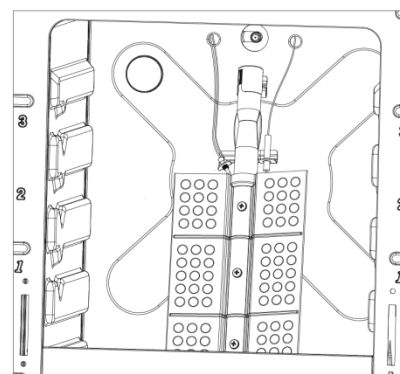

fig. 24
- b) Gently suspend the burner as shown in figure 24.
- c) Using a 7 mm box spanner, unscrew the injector (indicated in figure 24) and replace it using the new LPG injector.